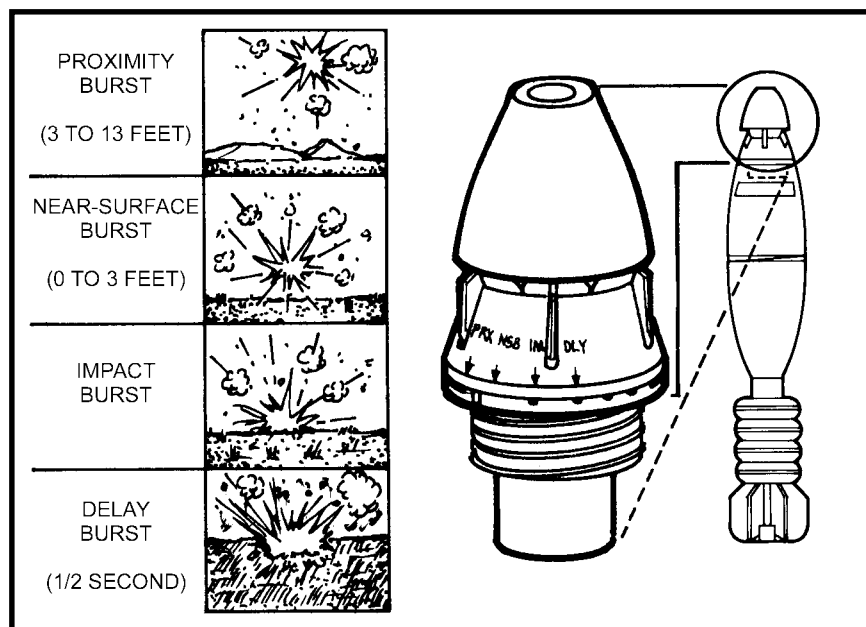

Figure 3-9. Multioption fuze, M734.
a. **Multioption Fuze, M734.** This fuze for the M720 HE round can be set to function as proximity burst, near-surface burst, impact burst, or delay burst (Figure 3-9, page 3-20). Tools are not needed to set this fuze. The setting can be changed any number of times before firing without damaging the fuze. The fuze has no safety pins or wires to reduce preparation time. The round bursts at 1 to 4 meters (3 to 13 feet) above the target. If a round set for proximity fails to burst at the proximity distance above the target, it automatically bursts at 0 to 1 meter (0 to 3 feet) above the target. If a round set for near-surface burst (NSB) fails to burst at the near-surface distance above the target, it automatically bursts on impact. If a round set for impact fails to burst on impact, it automatically bursts 0.5 (1/2) second after impact (delay).